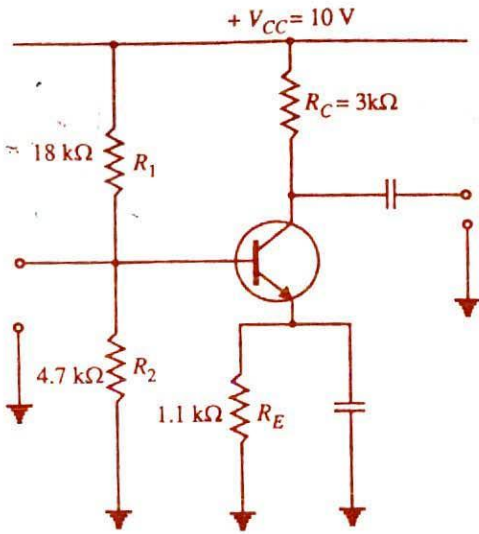

Fig. 11.36
9. Determine whether or not the circuit shown in Fig. 11.36 is midpoint biased. [Yes]